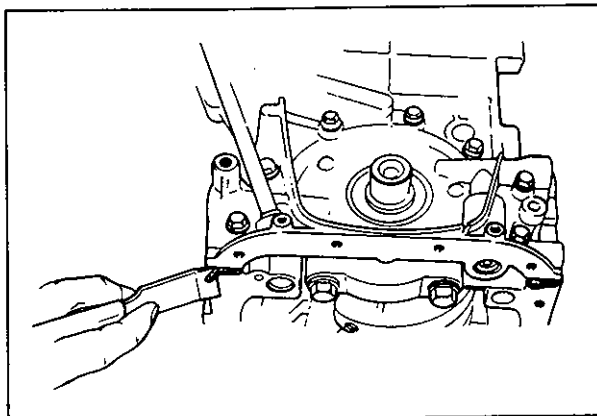

Fig. 6A-65 Cutting Edge of Gasket
6. Timing belt guide, key, and crank timing belt pulley. Refer to Fig. 6A-49 for proper installation of these parts.